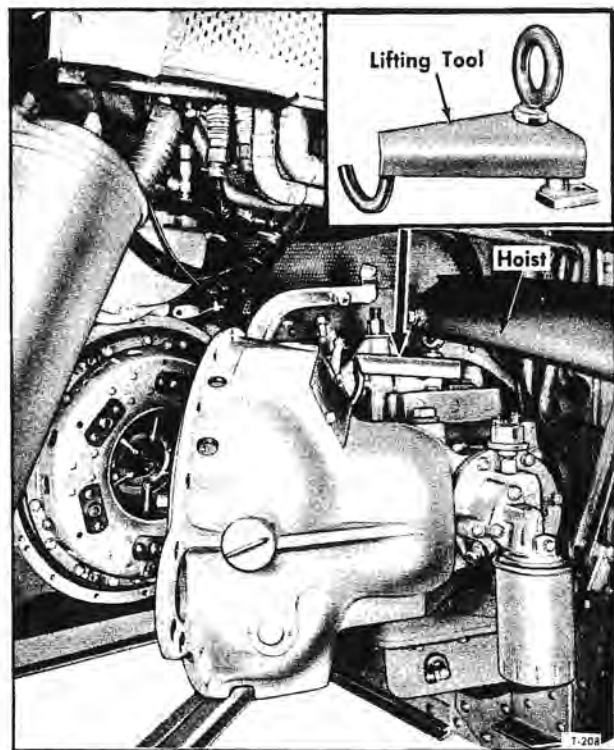

Figure 11—Replacing Transmission
8. Attach lifting tool (fig. 11) to transmission, and attach hoist to lifting eye. Remove clutch and flywheel housing bolts and washers (1), then lift transmission assembly and move straight away from engine until splines are disengaged. Turn the transmission as shown in figure 11 and remove from engine compartment.
### INSTALLING TRANSMISSION (Fig. 11)
2. With clutch release parts assembled in clutch housing, lift transmission with hoist and lifting tool as shown in figure 11. Move transmission into engine compartment and guide splined shaft into position in line with clutch members, also enter clutch release rod through hole at upper end of release lever.